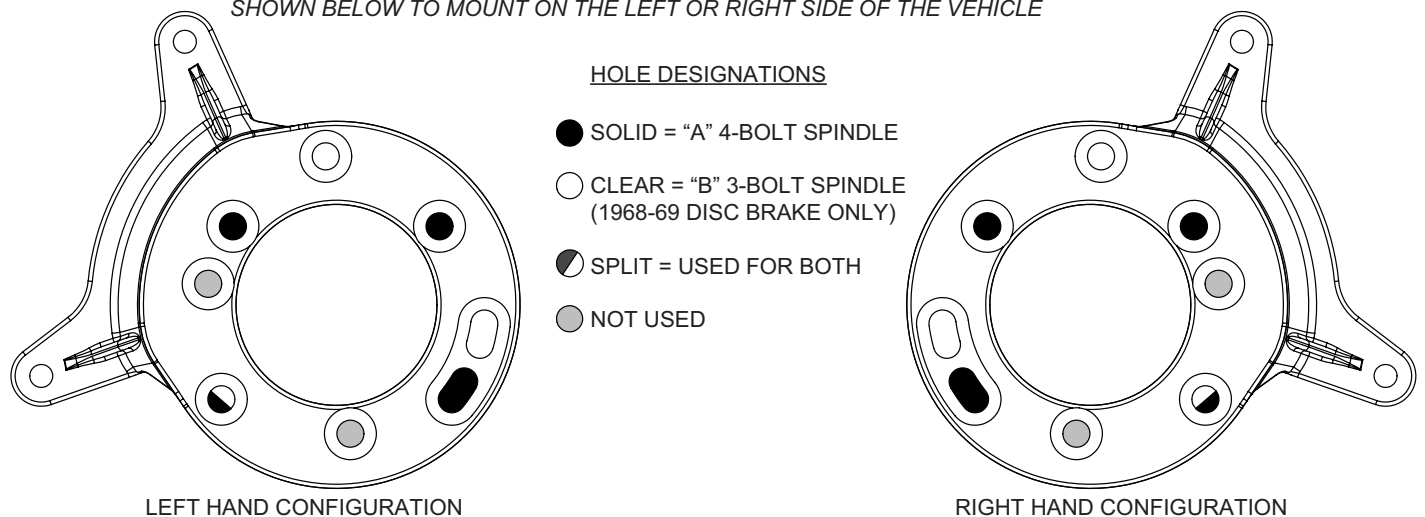
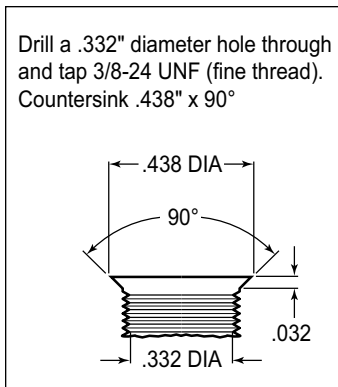
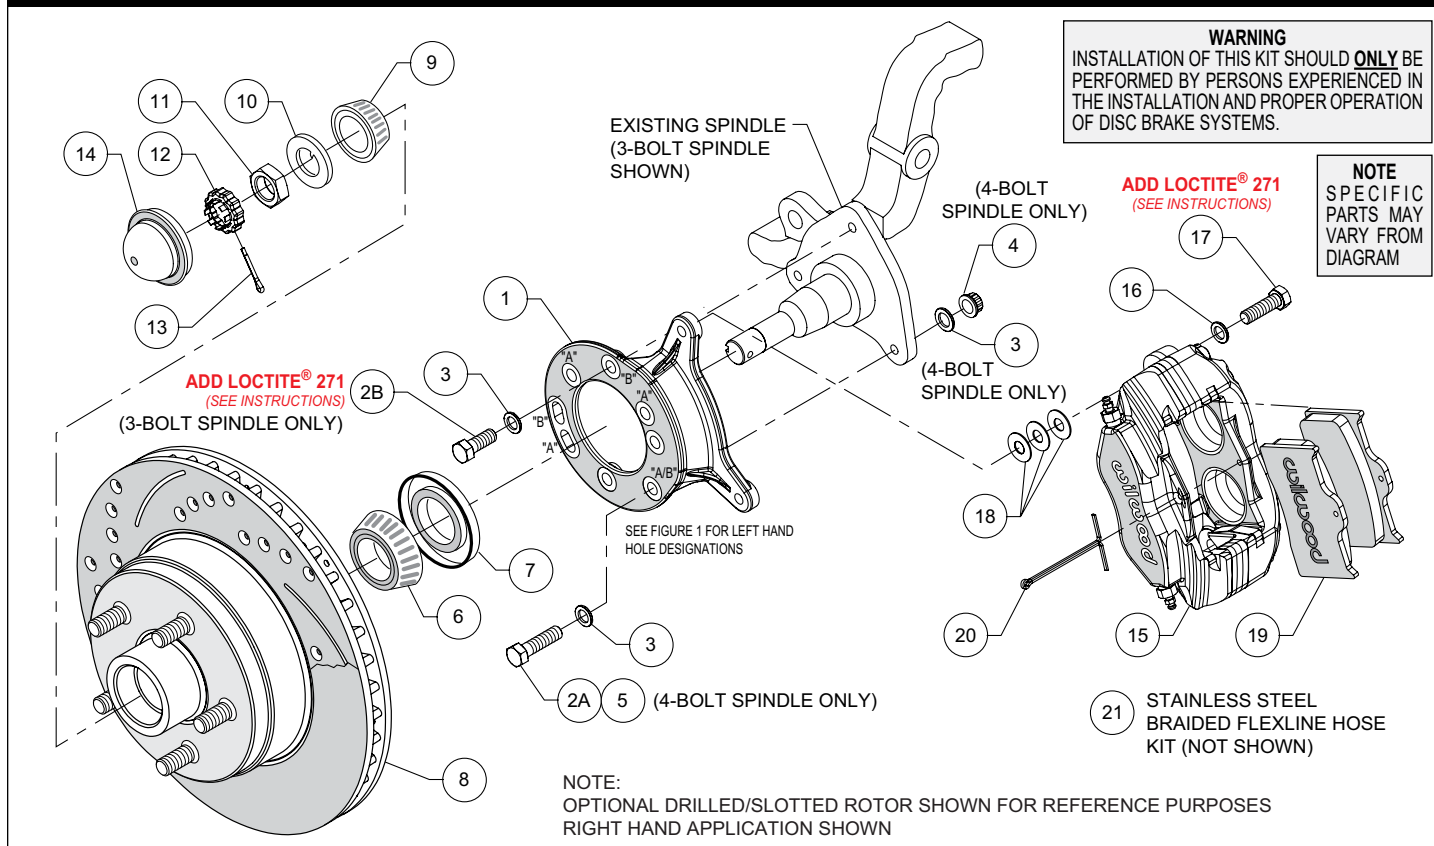

Figure 1. Wilwood Caliper Mounting Bracket
Figure 2. Drill and Tap Detail
Figure 4. Typical Installation Configuration
This kit has been designed for use with both three and four bolt spindle configurations. The only difference is in how the Wilwood caliper mounting bracket is installed. The same bracket is used for both configurations; only the 1968-69 disc brake spindle utilizes three mounting holes while all other spindles use the four mounting holes (see Figure 1). For your convenience we have supplied bolt kits for both applications (see parts list and Figure 4 as necessary). Use the bolt kit that is applicable to your vehicle and disregard the other one.
NOTE: This modification should be performed by a qualified machinist and completed before assembly of the Wilwood disc brake kit begins. Using the caliper mounting bracket as a template (refer to Figure 1 as necessary), locate and verify the three original holes on the spindle that need to be modified. Drill a .332" diameter hole through all three holes, then tap 3/8-24 UNF (fine thread). Countersink the holes to .438" diameter x 90°, as shown in Figure 2.
NOTE: Numbers in parenthesis refer to the parts list and Figure 4 on the preceding pages.
•**NOTE:** This kit uses the same mounting bracket (1) for both the three and four bolt brake spindles. The 4-bolt version, Photo 1, uses four mounting bolts (designated "A"), while the 3-bolt version, Photo 2, uses three (designated "B"). Refer to Figures 1 and 4 for the basic installation position of the bracket and the "A" and "B" reference designations (not physically marked on the brackets).
For 4-Bolt Spindle: Align bracket, using the four "A" holes, to the face of the spindle and attach using bolts (2A and 5), washers (3), and lock nuts (4), as shown in Figure 4 and Photo 1. Torque lock nuts to 30 ft-lb.
For 3-Bolt Spindle (1968-69 Disc Brake): Align bracket, using the three "B" holes, to the face of the spindle and attach using bolts (2B) and washers (3), as shown in Figure 4 and Photo 2. Finger tighten. Remove bolts one at a time, apply red *Loctite*® 271 to threads, and torque to 40 ft-lb.
•Pack the large inner bearing cone (6) with high temperature disc brake bearing grease (available from your local auto parts store) and install into the backside of the hub (8), Photo 3.
•Install the grease seal (7) by pressing into the backside of the hub (8), flush with the end of the hub.
•Pack the small outer bearing cone (9) with high temperature disc brake bearing grease and install into the front side of the hub (8). Slide the hub/rotor onto the spindle. Secure using spindle washer (10) and spindle nut (11). Adjust bearings per OEM specifications. Install spindle nut retainer (12) and a new cotter pin (13), Photo 4.
•Press the dust cap (14) into hub (8), Photo 5.
•Mount the caliper (15) onto the caliper mounting bracket (1) using bolts (17) and washers (16), as shown in Figure 4. Initially place three .035" thick shims (18) on each bolt between the caliper and the bracket, Photo 6. Temporarily tighten the mounting bolts and view the rotor (8) through the top opening of the caliper. The rotor should be centered in the caliper, Photo 7. If not, adjust by adding or subtracting shims between the bracket and the caliper. Always use the same amount of shims on each of the two mounting bolts. Once the caliper alignment is correct, remove the bolts one at a time, apply red *Loctite*® 271 to bolt threads, and torque to 40 ft-lb.
•Install the disc brake pads (19) into the caliper, with the friction material facing the rotor (8), Photo 8. Secure in place using cotter pin (20), Photo 9.